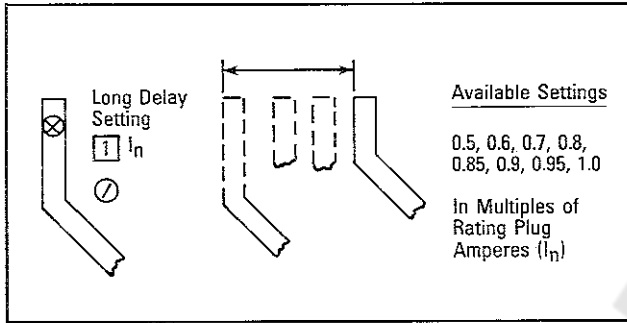

Fig. 4.1 Long Delay Ampere Pickup Settings
The available settings, along with the illustrated effect of changing the settings, are given in Figs. 4.1 through 4.7.
Eight (8) available settings, as illustrated in Fig. 4.1, range from 0.5 to 1.0 ( $I_n$ ). Each setting is expressed as a multiple of the maximum ampere rating ( $I_n$ ) of the installed rating plug.